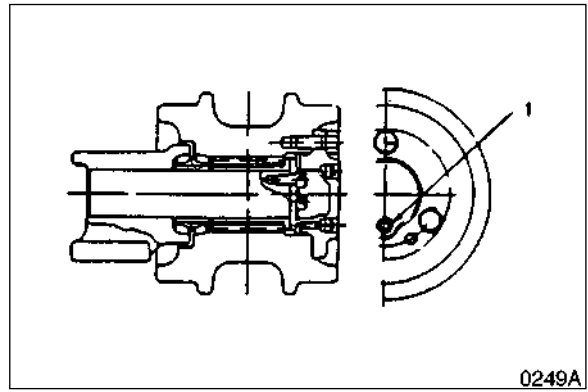

Figure 50
7. Tighten plug (1, Figure 50).